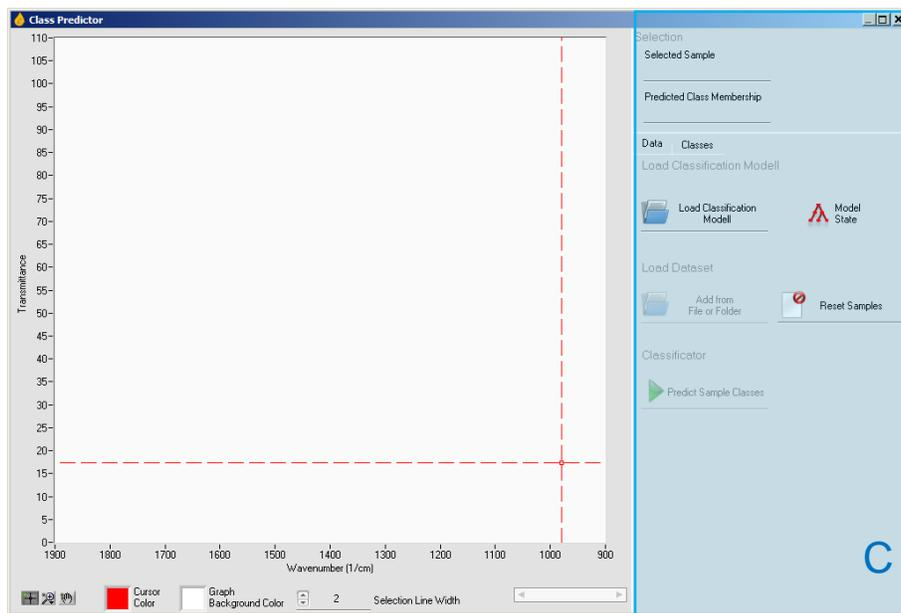

Figure 31: Class Predictor
To open the class predictor, select **Chemometrics > Classification > Class Predictor...** in the menu bar. Figure 31 shows the dialog to predict classification models. It is structured similarly to the dialog of the model builder. Only the options section (C) differs.